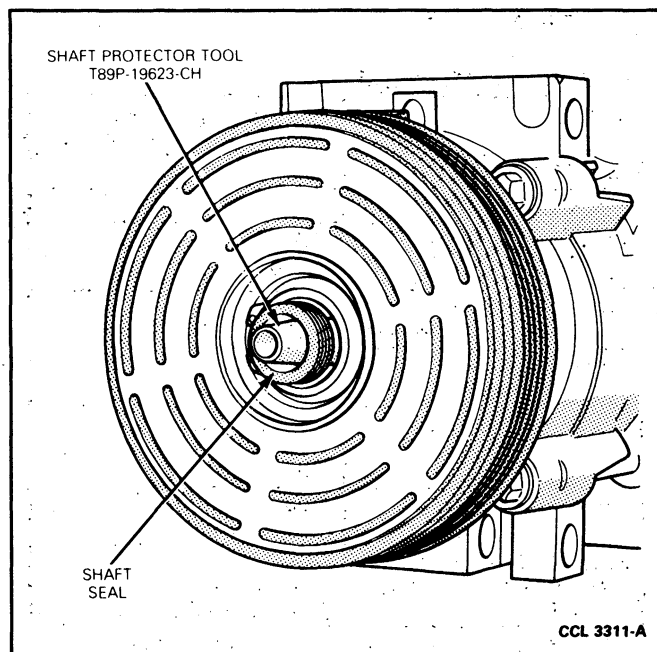

FIG. 12 Shaft Seal Protector Tool on Compressor Shaft
3. Dip shaft seal in clean refrigerant oil and position seal over the shaft protector, making sure lip portion of the seal is pointed toward compressor (Fig. 12).